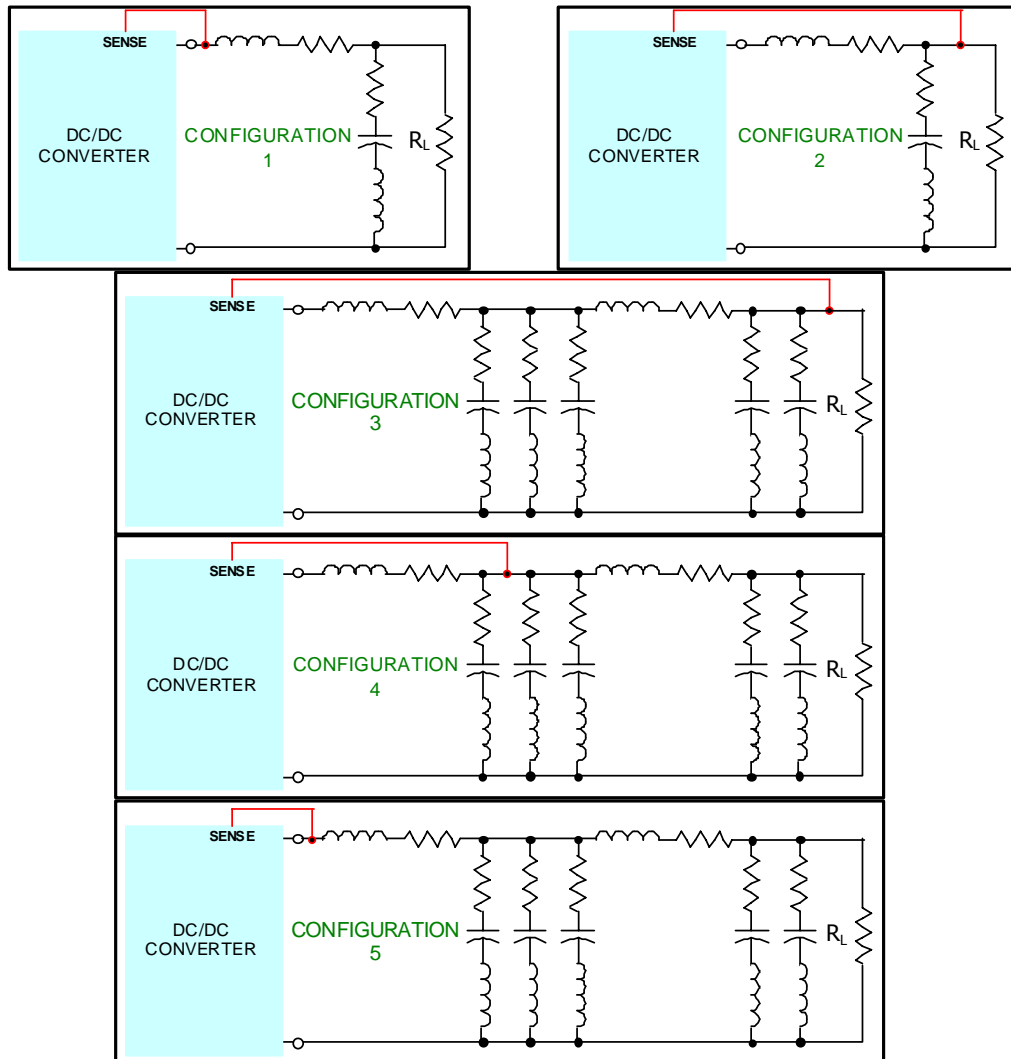

Fig. 3. Circuit configuration
- After highlighting the JFW050A.pwr file, click on the "OK" button or hit "ENTER". SAT will load the module data file and move to the *Configuration Menu* as shown in Figure 3. You may want to save SAT_v1.3.xls file under a different name so that the original one that you downloaded remains unchanged.